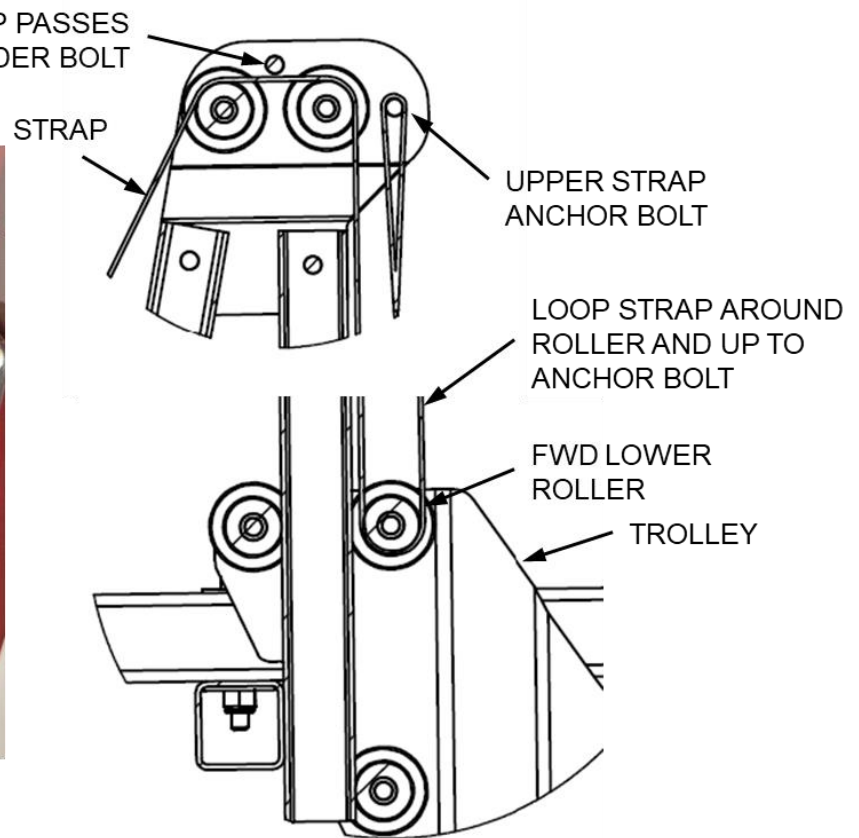

Figure 7
3. Route the Strap on top of the Rollers and install the top bolt as shown in Figure 7.